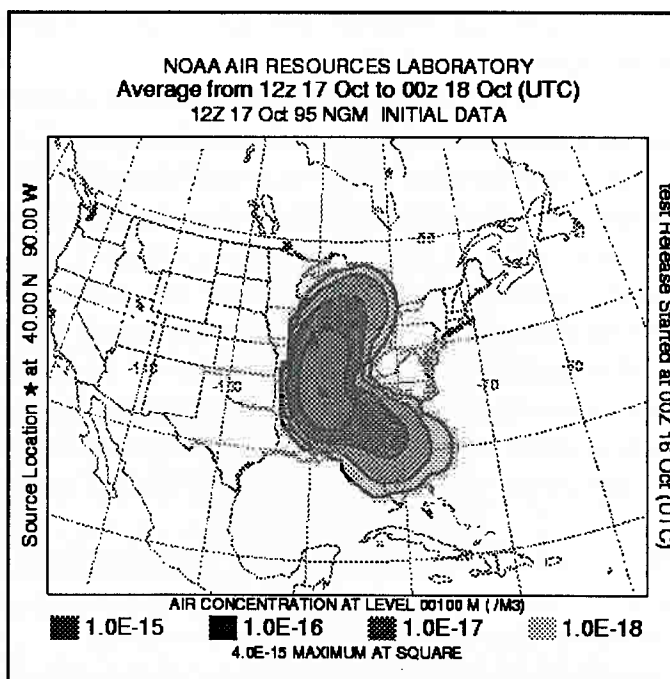

Figure 4. Example from the Postscript conversion.
Step 13 - selecting *Convert to Postscript* will run a special program that converts the binary concentration file to a Postscript file (*conplot.ps*) suitable for printing. No messages appear during the conversion. However if the *Ghostview* Postscript viewer has been installed and associated with .ps files, then it will be automatically invoked by the GUI. If the viewer does not automatically open, it may be necessary to manually edit the file `\guicode\hysplit4.tcl` for the directory entry associated with the program *gsview32.exe*. The sample output from the Postscript file is shown in Fig. 4. The output file can be printed directly on any Postscript printer or printed on any printer through *Ghostscript*.